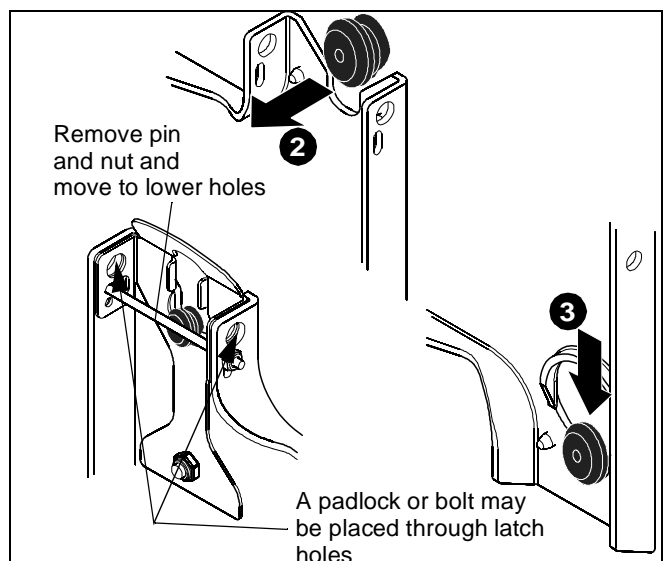

Figure 13
**NOTE:** Holes are provided in the faceplate for use with a padlock or similar locking device, if desired. In addition, the pin and nut may be removed from the upper holes and moved to the lower holes for use as a more permanent locking device. (See Figure 13)